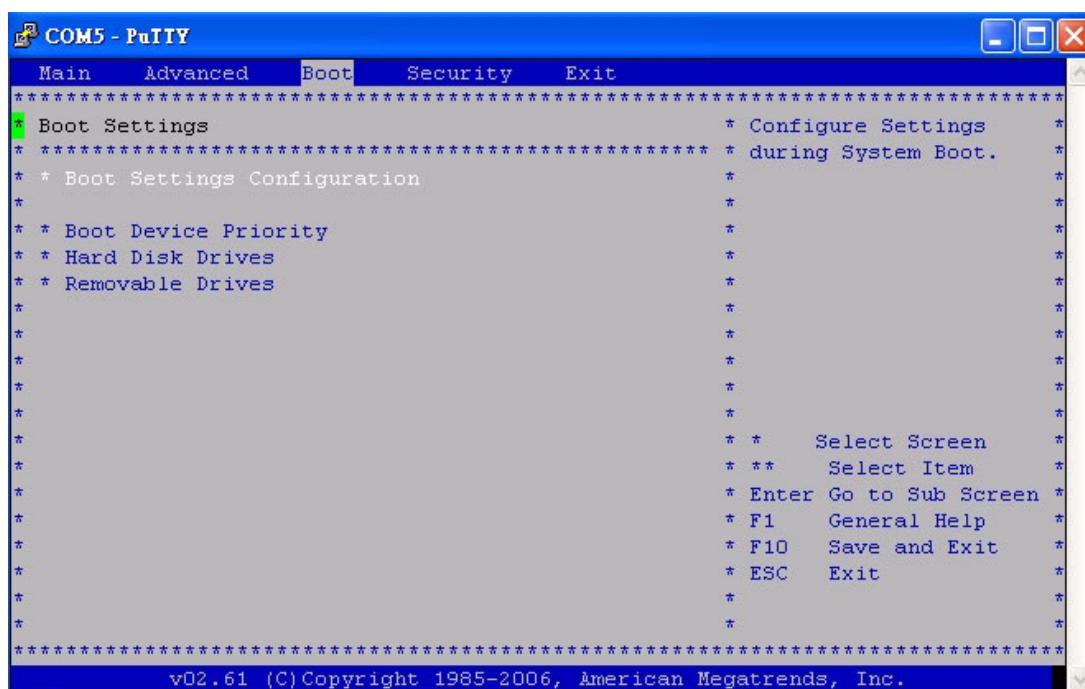

Figure 4.12 Boot Setup
2. **"Hard Disk Drives"** and **"Removable Drives"** can also be disabled individually in their corresponding sub-menus (see Figures 4.12 and 4.13).